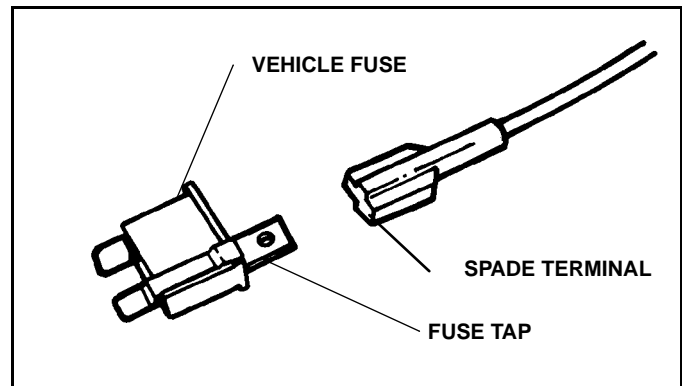

Figure 1-3
11. With the vehicle ignition key in the **ON** position, use a test probe to determine the fused "Dead/OFF" side of the fuse and attach the appropriate Fuse Tap to that side of the fuse. (See Figure 1-3)